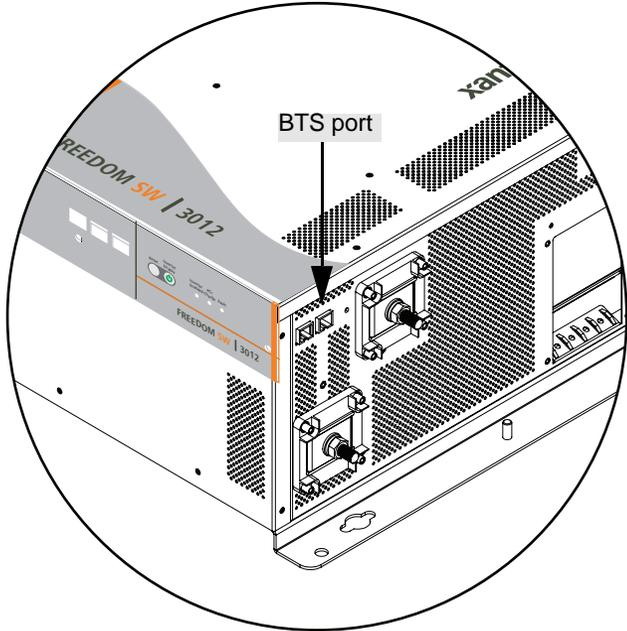

Figure 12 Connecting the BTS Cable to BTS Port
- 9. Route the sensor cable to the inverter/charger and plug it into the blue BTS port, as shown in Figure 12. Secure the cable along its length.
6. Route the sensor cable to the inverter/charger and plug it into the Battery Temp. jack, as shown in Figure 12. Secure the cable along its length.